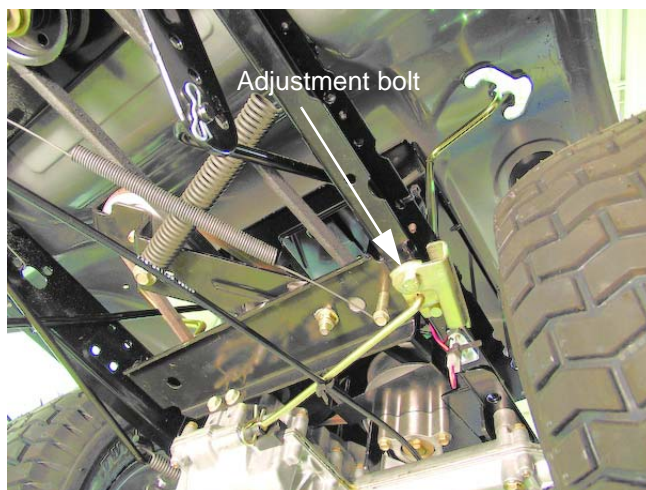

Figure 5.16
3. Loosen the adjustment bolt on the shift bracket using a 1/2" wrench. See Figure 5.16.